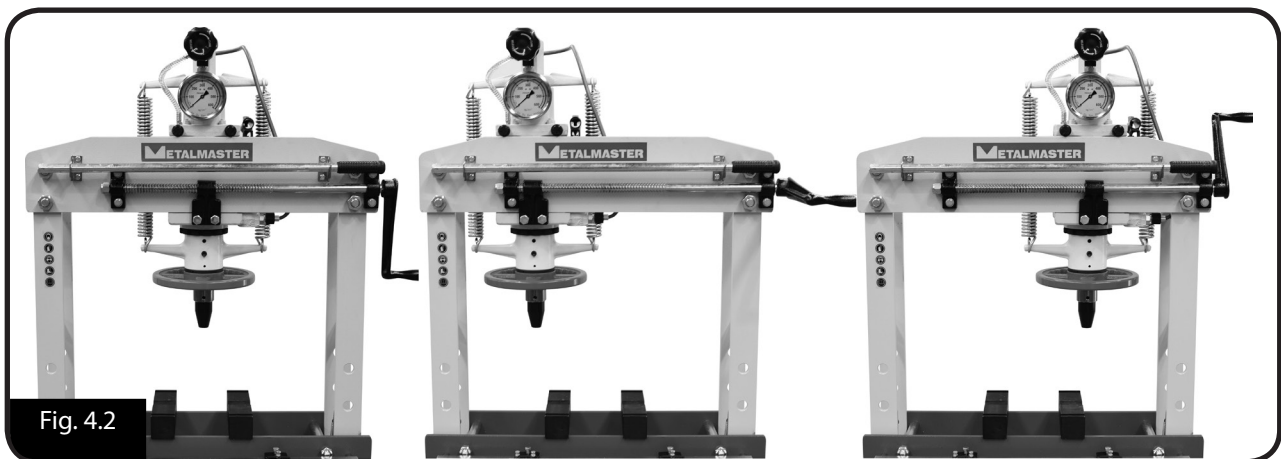

Fig. 4.2
1. Move the head (Fig. 4.2) to center the work piece and all parts of the set-up in line with the force direction. If using spacers in the set-up, they should be constructed of one solid piece or tack welded together for stability.